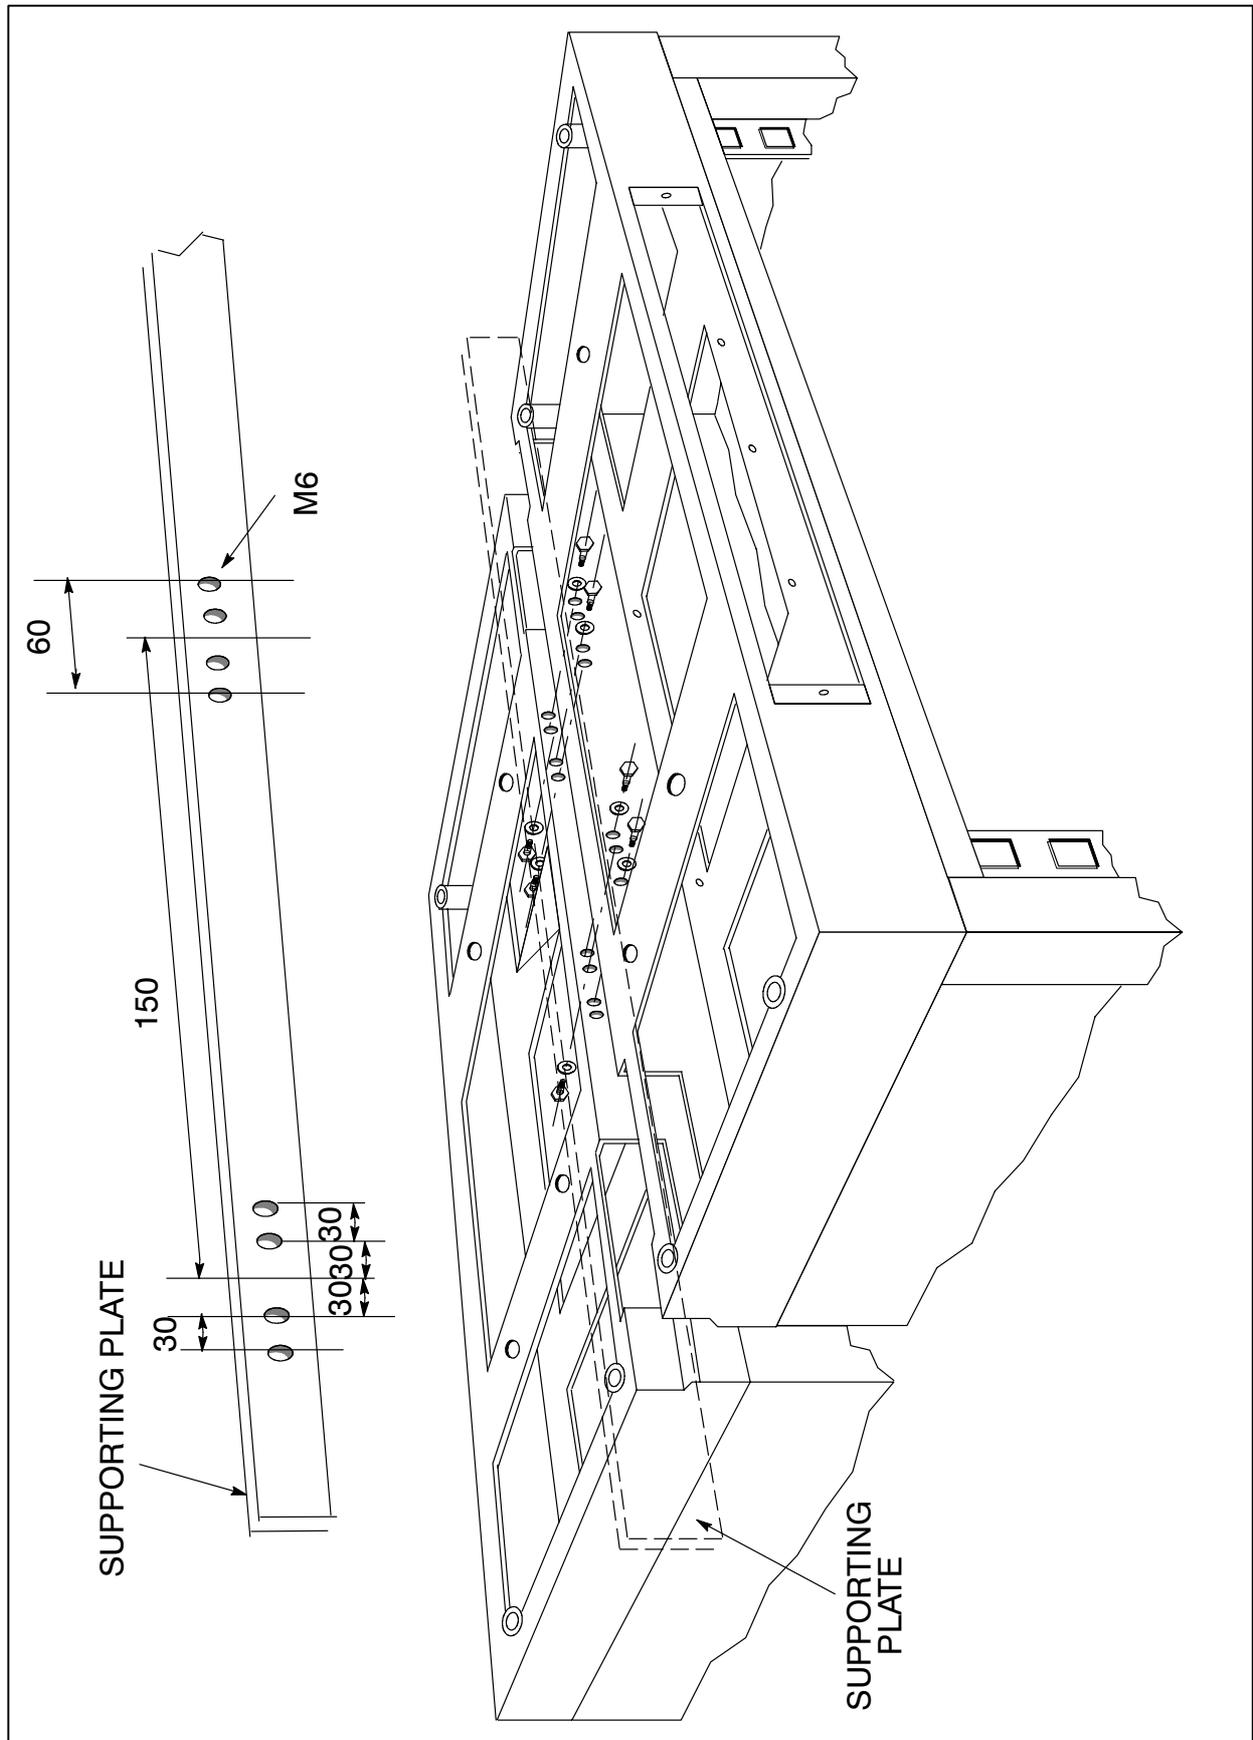

Fig. CC-10 Back-to-back mounting – view of top elements and supporting plate
- for back-to-back mounting (not supplied) (Fig. CC-10) .
3. Place the supporting plate between the top elements of the two back-to-back racks making sure that the holes of the top element and supporting plate are perfectly aligned (Fig. CC-10). The supporting plate has four threaded holes for each rack. Use the even holes for one rack and the odd ones for the other.